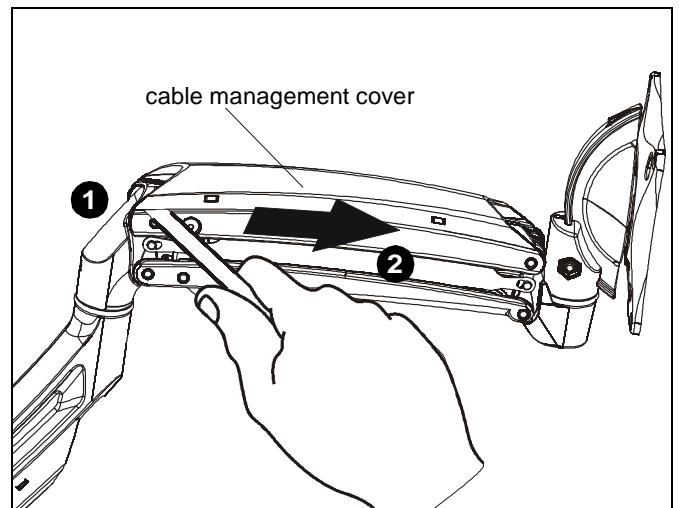

Figure 20
1. Use screwdriver to unhinge tab on either end of cable management cover on upper arm. (See Figure 20)
2. Slide screwdriver along edge of cover until remaining tabs are unhinged and cover is in the "open" position. (See Figure 20)